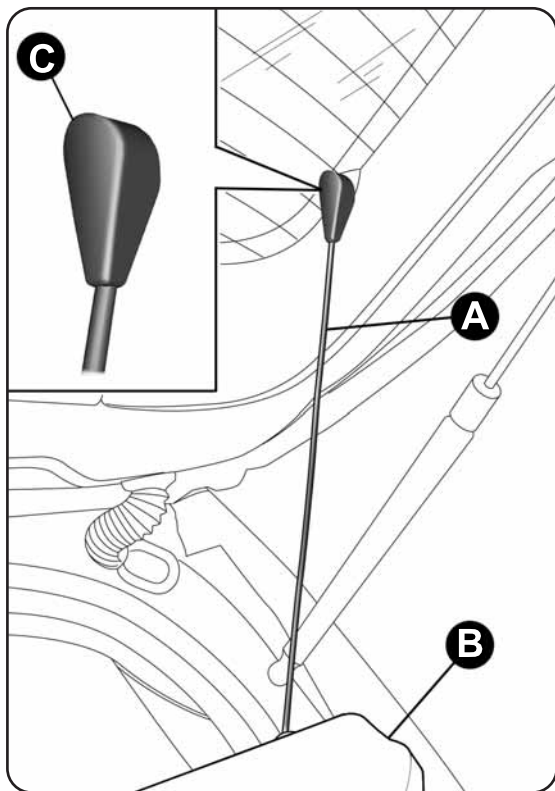

fig. 72
- free the ends of the two links A-fig. 72 supporting the parcel shelf B, releasing eyelets C from supporting pins D;